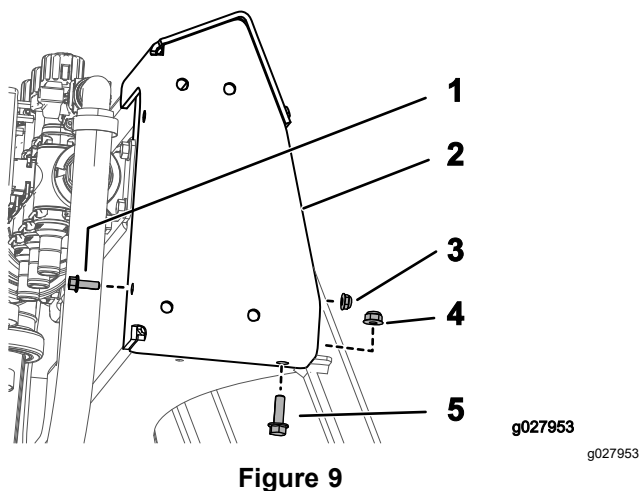

Figure 9
1. Mount the upper bracket using 1 bolt (1/4-20 x 3/4 inch), 1 nut (1/4-20 inch), 1 whiz bolt (5/16-18 x 1 inch), and 1 flange nut (5/16-18 inch) as shown in Figure 9.